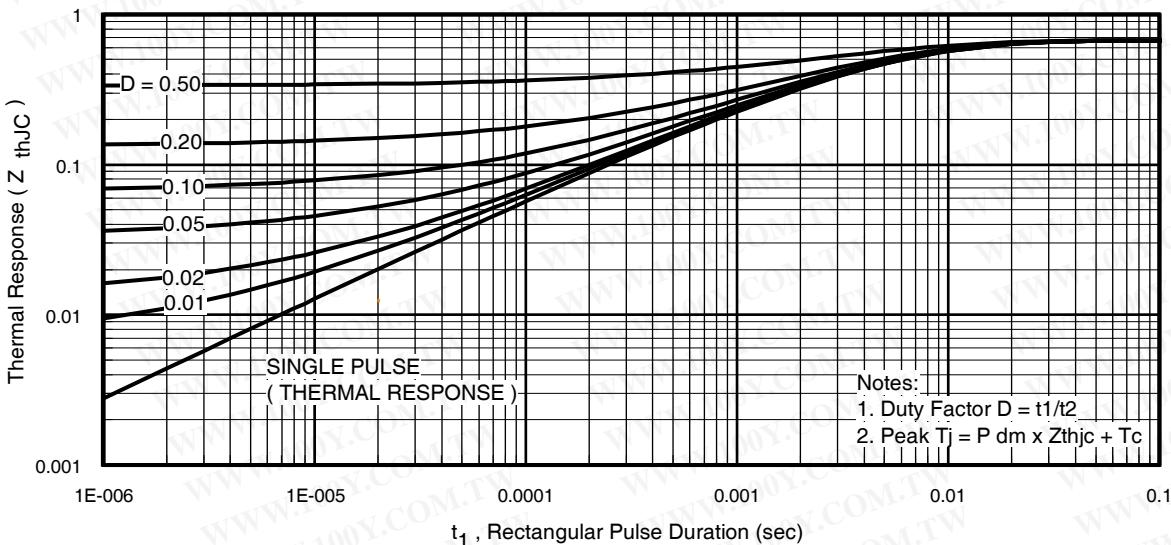

Fig 11. Maximum Effective Transient Thermal Impedance, Junction-to-Case
- $Z_{thJC}(D, t_{av}) = \text{Transient thermal resistance, see figure 11)$